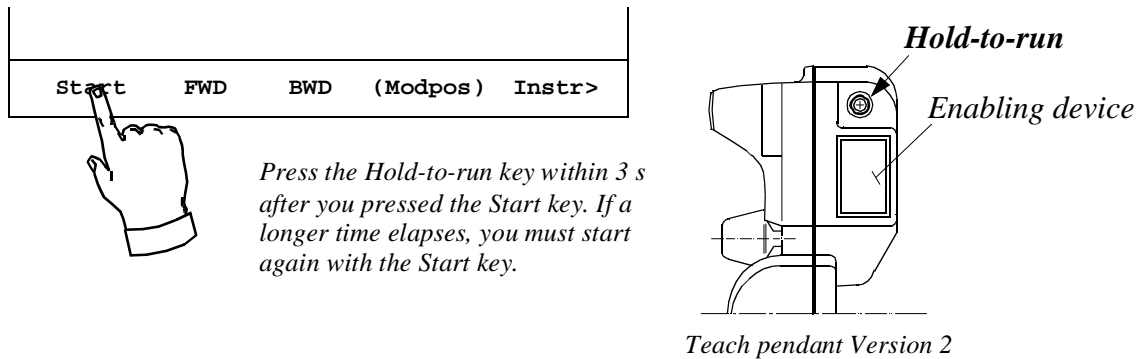

Figure 22 The Hold-to-run key is located on the side of the teach pendant.
- for Teach pendant Version 2; press the **Start** key, release it, and press the Hold-to-run key. Keep this key depressed while the program is running, otherwise the program will stop (see Figure 22).